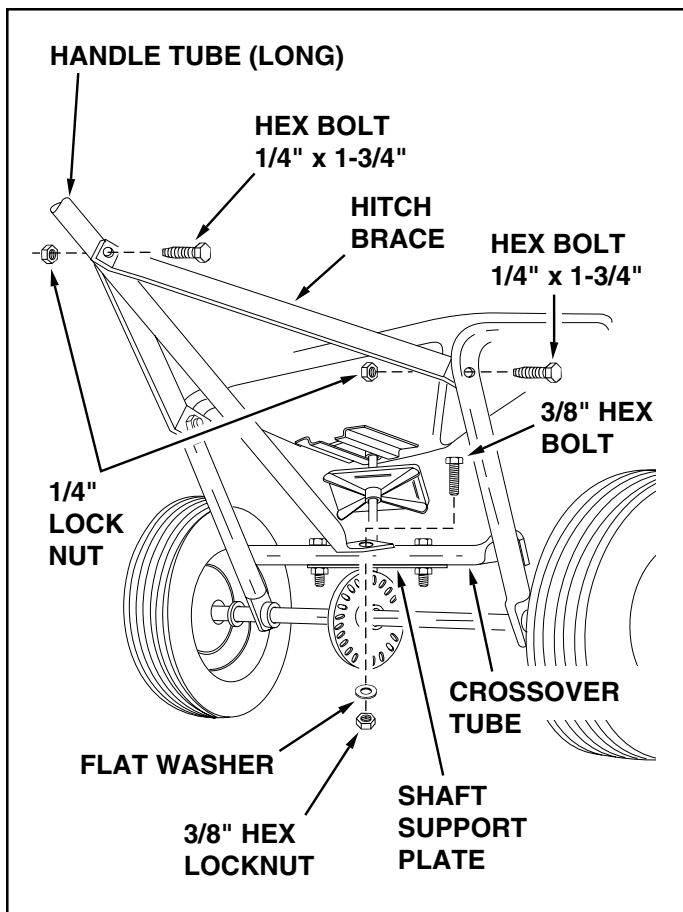

FIGURE 4
10. Assemble two handle braces to the inside of the hopper frame, one on each side, using two 1/4" x 1-3/4" hex bolts and two 1/4" lock nuts. See figure 4. **Do not tighten at this time.**
11. Assemble the other end of the two handle braces to the long handle tube using a 1/4" x 1-3/4" hex bolt and 1/4" lock nut. **Do not tighten at this time. See figure 4.**
12. **Tighten** all hex lock nuts and bolts in the same sequence as assembled in steps 9 through 11. See figure 4.